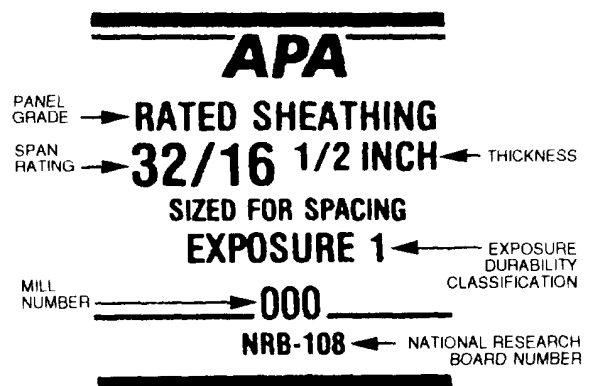

Figure 3-38.-Structural stamp.
**Industrial Panels.**— Structural and sheathing panels have a stamp found on the back. A typical example for an industrial panel grade of plywood is shown in figure 3-38.